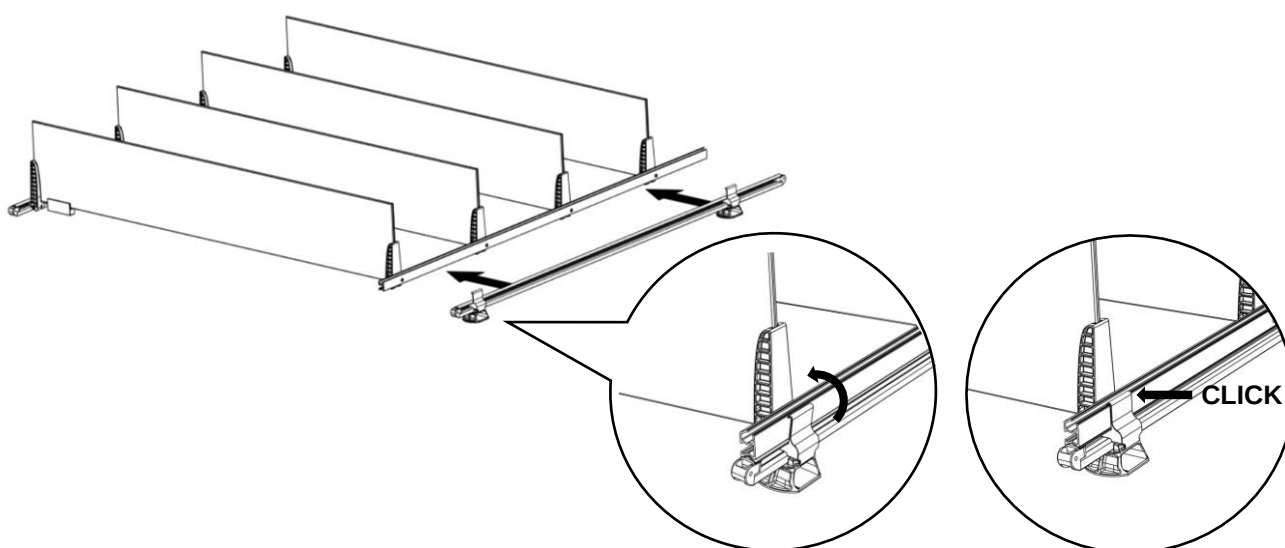

Figure 12: Alignment and Connection of the Support Beam with the Start Beam
5. Carefully lower the unit, making sure that the Support beam (the one without feet and without cables) is properly aligned with the Start Beam. Then, slide the Start Beam into position until it securely snaps into place. A clicking sound will confirm that it is correctly positioned, as illustrated in Figure 12.